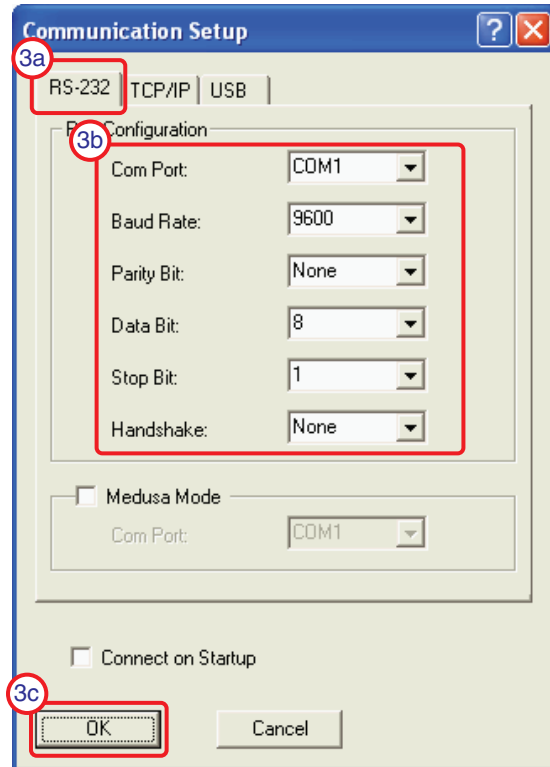

Figure 96. RS-232 Connection Setup Window
3. On the Communication Setup window (see figure 96):